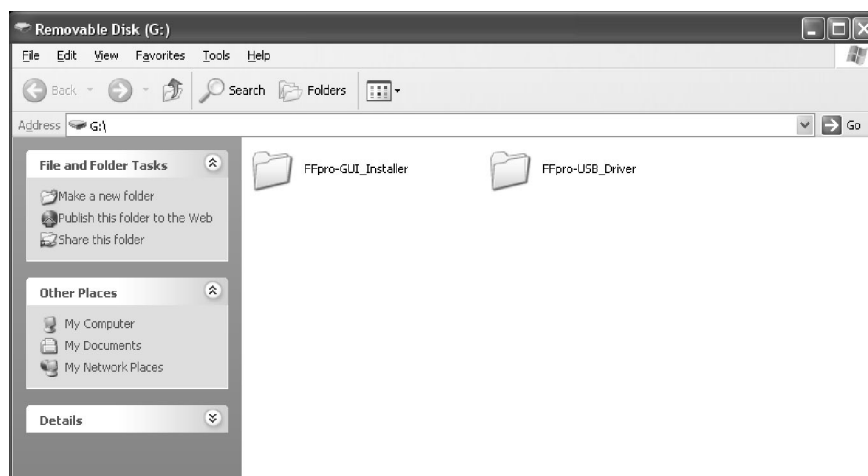

Figure 30
2. Switch ON the FemtoFiber® pro Control Unit at the ON/Off switch (16) at the rear panel and at the ON/OFF Key Switch (25) at the front panel.
3. Insert the Software USB stick at the control computer and make sure that you will find two folders on the USB stick, same or similarly named as shown in Figure 30.